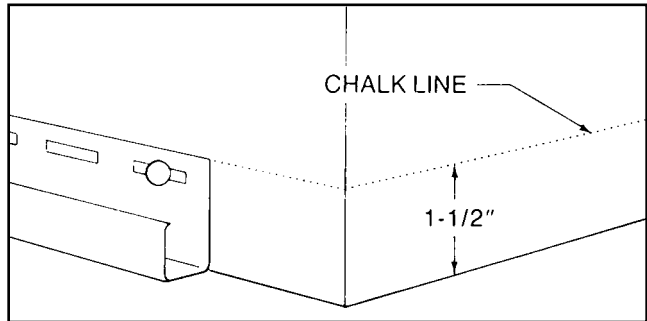

Fig 7.1
2. CHALK LINE It is best to establish a level chalk line in relation to the eaves or the tops and bottoms of doors and windows. First, determine the lowest corner of the building where a level line can be drawn (uninterrupted) around the perimeter. Measure up 1-1/2" from that point and snap a level chalk line around the house (Fig. 7.1)
- A. Align the top of the nailing flange of the J-Channel along the chalk line (Fig. 7.1) and nail in the center of the nailing slots every 6" to 12". Leave a gap of at least 1/4" between the end of the J-Channel and the corner post (Fig. 7/4) for expansion. A larger gap may be needed to allow the siding panel to properly lock into the starter strip. Splice the J-Channel as needed (see step 7, page 11) to complete installation.